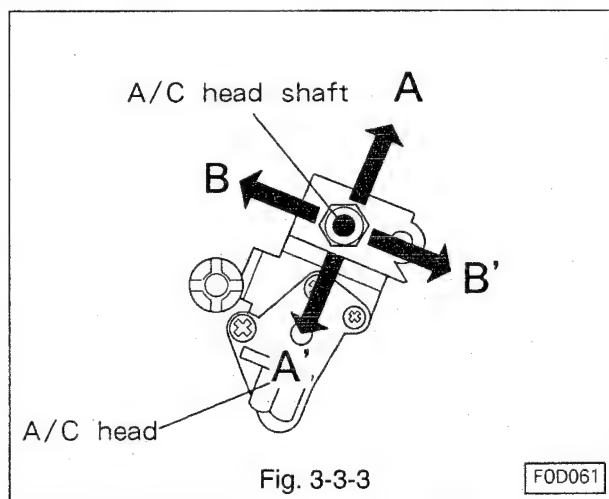

Fig. 3-3-3
- Apply a force lightly to the A/C head shaft in the direction of A and A' of the arrow shown in Fig. 3-3-3 to make certain that the audio output level remains at maximum level and does not change.
- If the level changes, turn the nut A(height adjusting)so that the audio output level is maximum. Apply a force lightly to the A/C head shaft in the direction of B and B' of the arrow shown in Fig. 3-3-3 and adjust so that the sound output level is maximum.